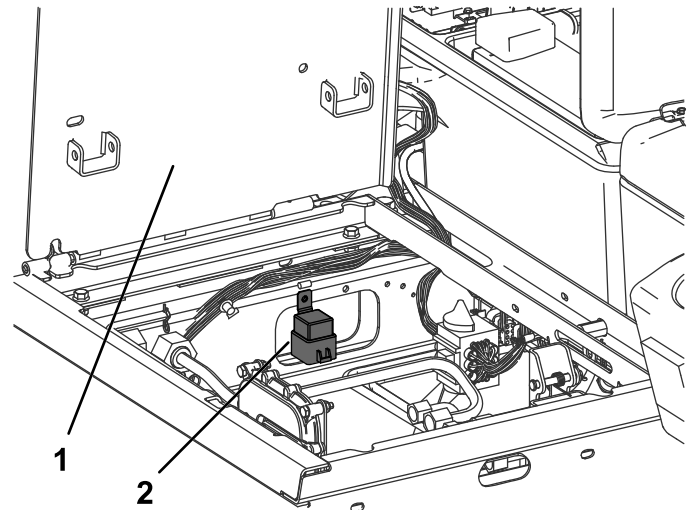

Figure 26
7. Connect the relay to the relay mount with the provided self-tapping screw as shown in Figure 26.